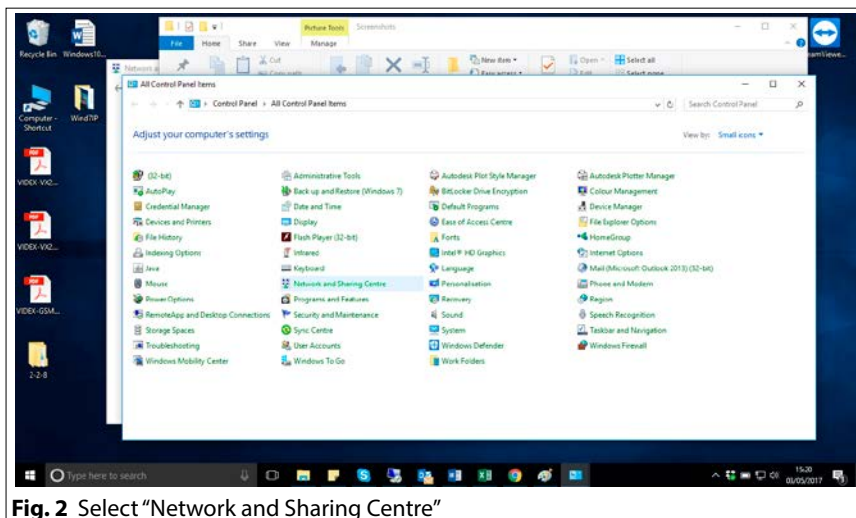

Fig. 2 Select "Network and Sharing Centre"
- Pull outwards the top part of the cover as shown in Fig. 2. **Don't pull the cover straight.**